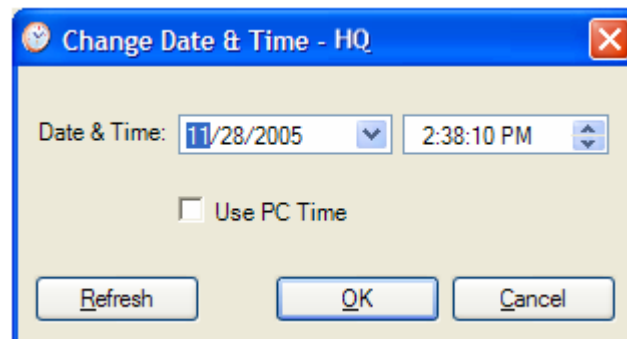

Figure 4-14. Manually changing date and time
6. To manually set the date and time, click **Change** (Figure 4-14) and edit the new values.